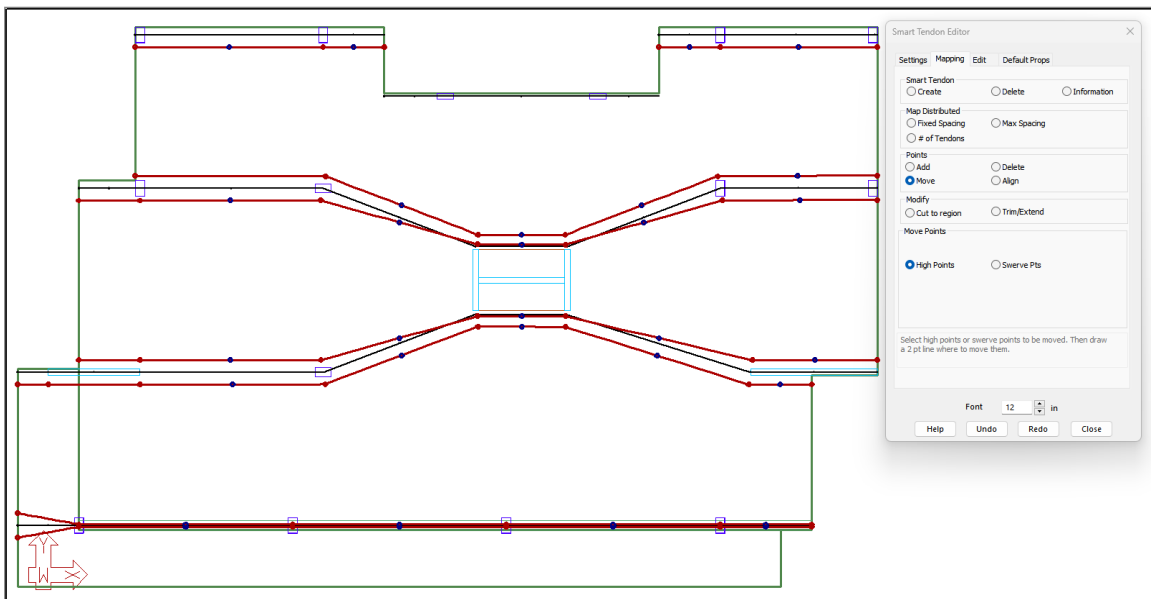

FIGURE 9-55
- Move the remaining three high points that are near the opening away from the opening in the same manner. When you are done, your model should look as shown in **FIGURE 9-55**.